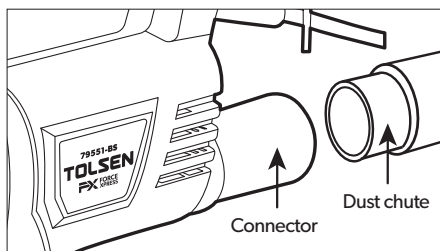

Figure 5
2. To fasten the Dust Chute (sold separately) in place, align the pins on Dust Chute with slots in Connector. Push Dust Chute in and turn clockwise to lock. See Figure 5, below